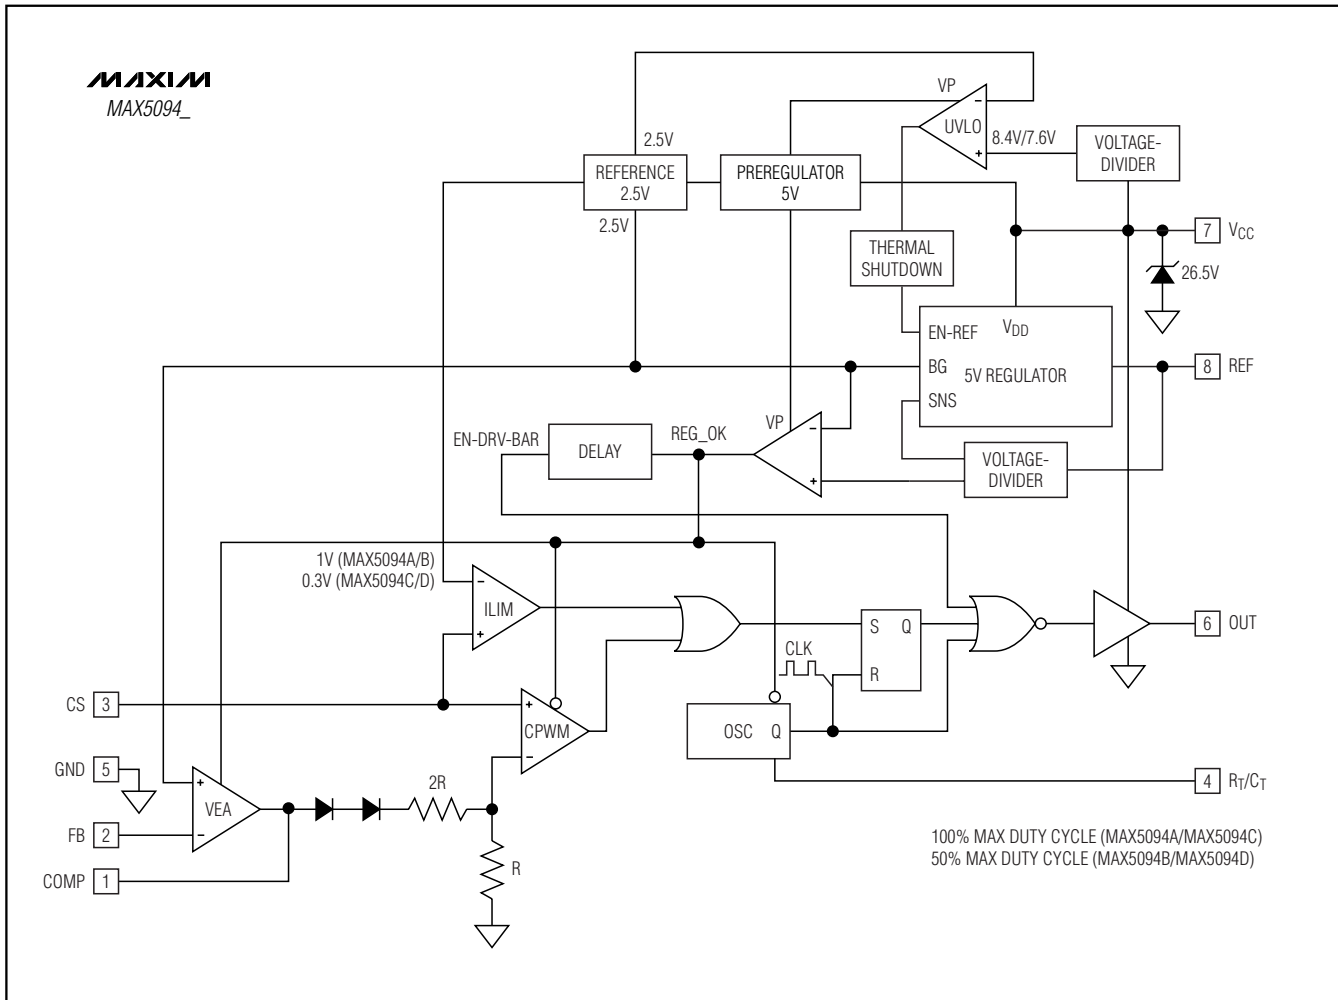

Figure 1. MAX5094\_ Functional Diagram
feedback input (FB) and internal error amplifier. The MAX5095A/MAX5095B include bidirectional synchronization (SYNC). This enables multiple MAX5095A/MAX5095Bs to be connected and synchronized to the device with the highest frequency. The MAX5095C includes an ADV\_CLK output, which precedes the MAX5095C's drive output (OUT) by 110ns. Figures 1, 2, and 3 show the internal functional diagrams of the MAX5094\_, MAX5095A/MAX5095B, and MAX5095C, respectively. The MAX5094A/MAX5094C/MAX5095A are capable of 100% maximum duty cycle. The MAX5094B/MAX5094D/MAX5095B/MAX5095C limit the maximum duty cycle to 50%.